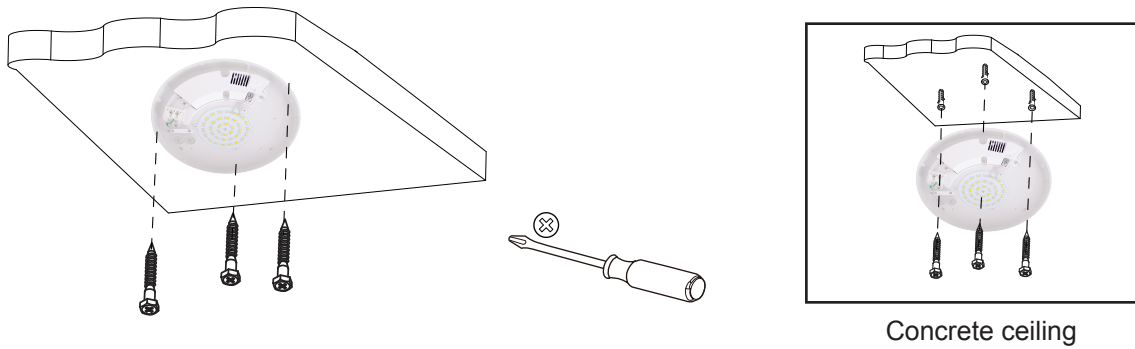

Fig.5
- Step5 Fix the base of the product on the selected place with the screws (as Fig.5)